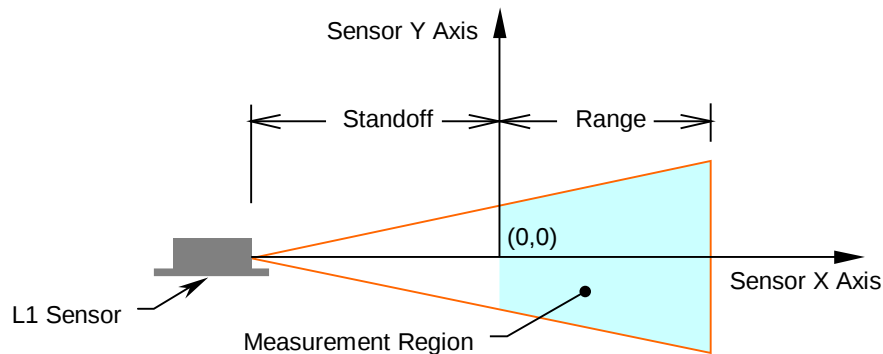

Figure C.1. Measurement Envelope of L1 Sensor
- Measurement envelope of each sensor (see **Figure C.1**).
The function of the scanner frame is to hold the L1 sensor heads in the desired positions and orientations as determined above. Accurate measurement requires that the sensor heads be held rigidly in position during operation. At the same time, in systems with more than one L1 sensor head, allowance must be made to align the heads with one another during installation. The nature of this alignment is dependent on the particular scanner design. It may be necessary, for example, to place all of the laser fans in the same plane or in parallel measurement planes. With reference to **Figure C.1** (where the z-axis is out of the page) sensor head alignment will typically require a translation along the z-axis, and rotations about the x and y-axes. Suitable mechanical adjustments must be built into the scanner frame to permit the required alignment. Slotted or oversize mounting holes and shims can accomplish this in most circumstances.